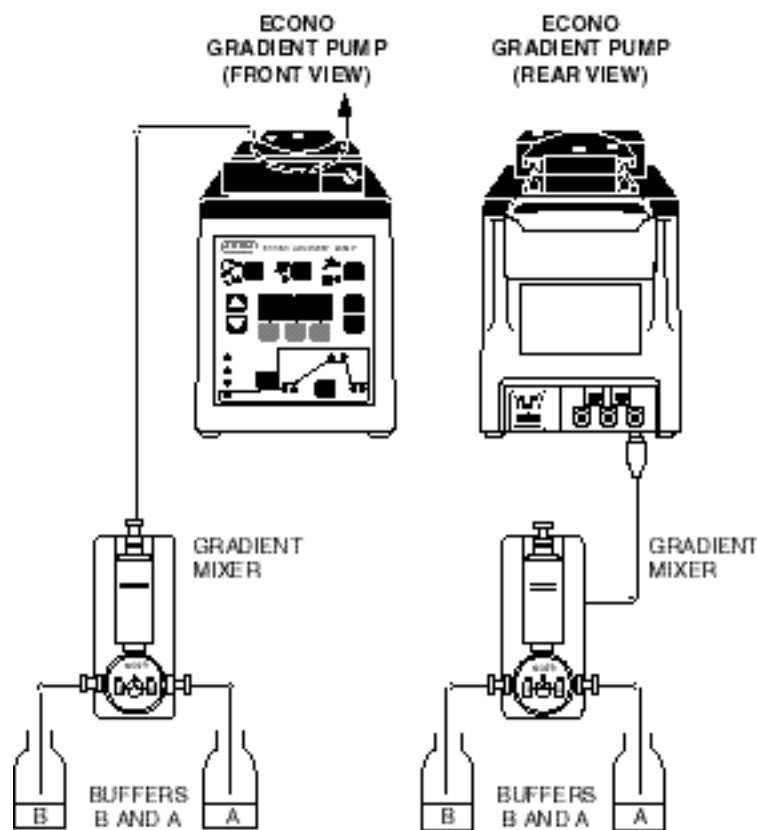

Figure 4. Use with the Econo Gradient Pump
2. Using barb-to-male luers, connect an appropriate length of tubing between buffer ports A and B to their respective solvent reservoirs (see Figure 4.) Match the appropriate luer connector with tubing ID, and ensure a firm connection but do not overtighten. Similarly, connect the gradient mixer to the pump inlet.